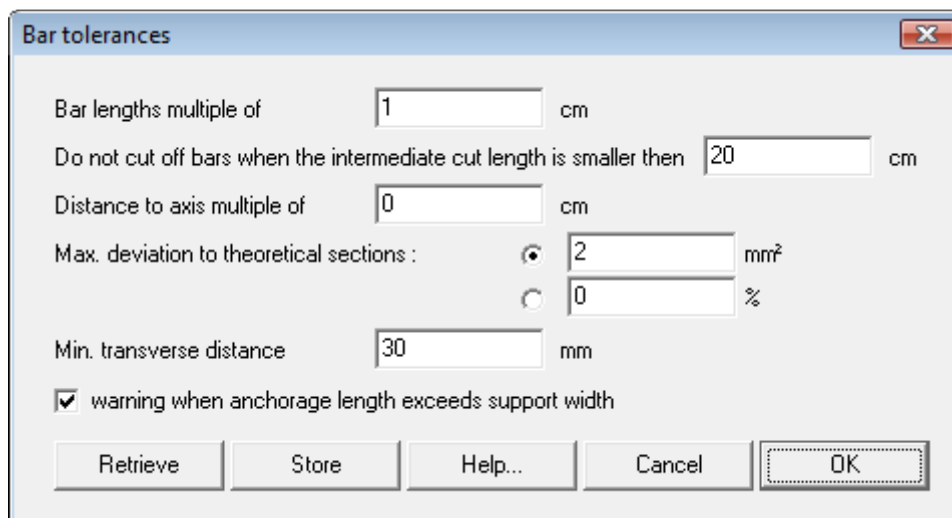

Figure 43: Bar tolerances
Click with the Mouse in the pallet on the button until the desired option appears, e.g. (top reinforcement) 'continuous'. ConCrete Plus automatically recalculates the top reinforcement and the bars (2) and (3) of Figure 43 are replaced by one bar (2). The numbering of the other bars is automatically adapted. The reinforcement drawing now looks as follows: